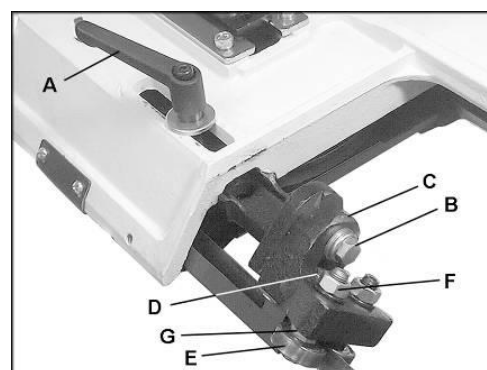

Fig 11
Loosen bolt (B, Fig 11) and adjust assembly (C) so that back roller bearing (D) is approximately 0,1mm from the back of the blade. Tighten bolt.